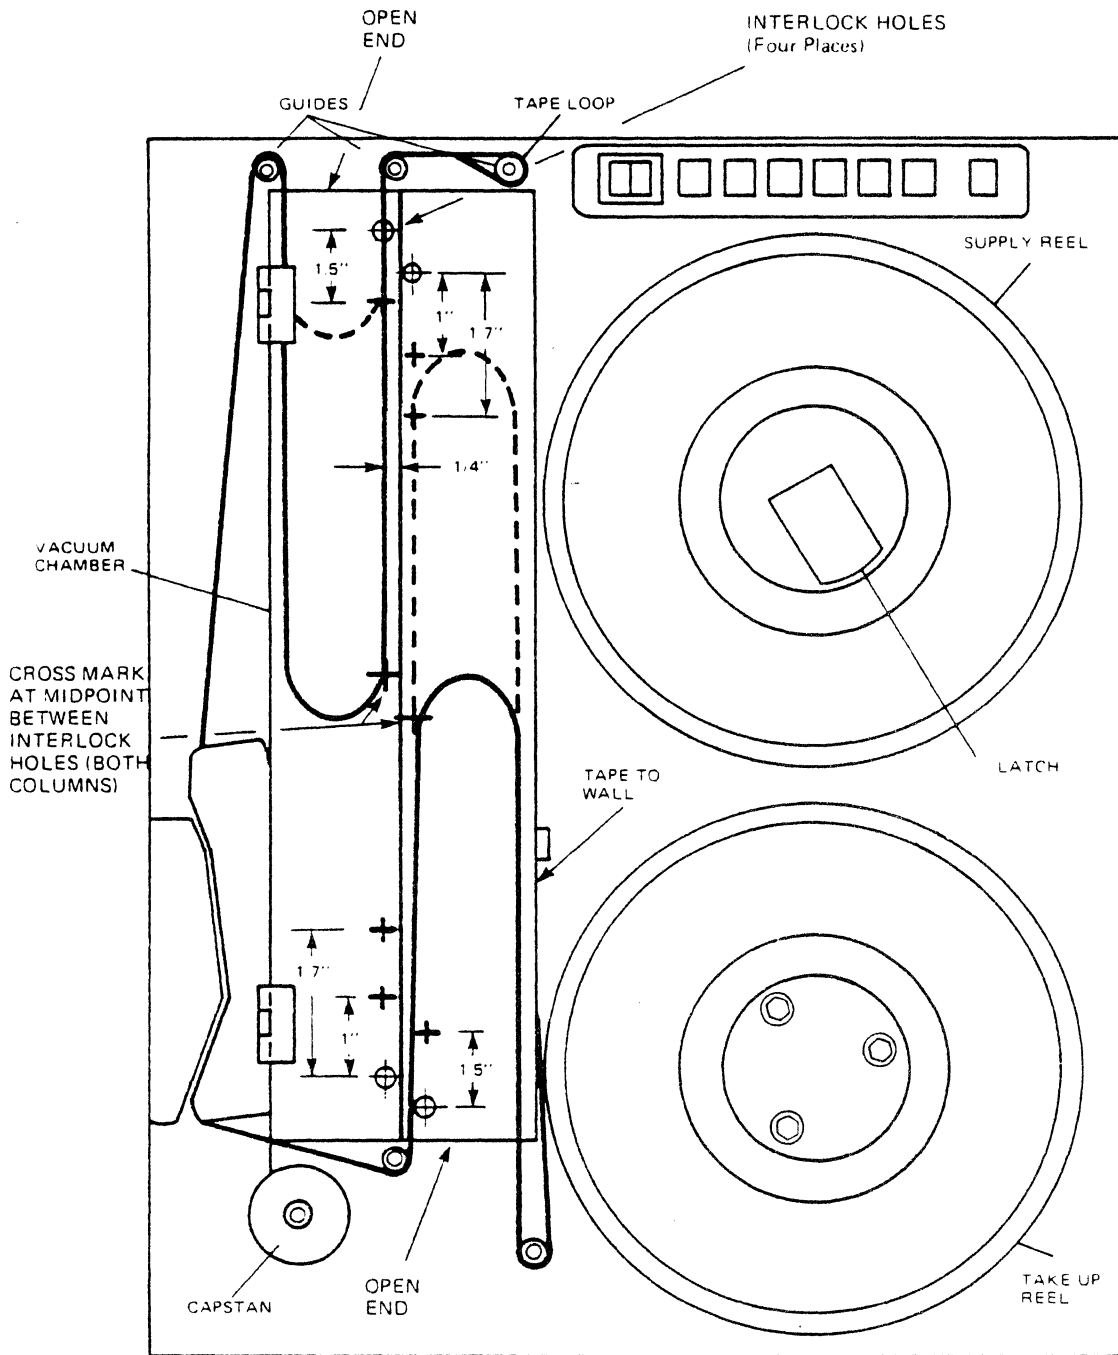

Figure 5-3. Tape Loop for Vacuum Column Servo Adjustment
- b. Remove the head covers. Load a loop of tape in the vacuum chamber as shown in figure 5-3.
- c. Position tape loop so that tape intersects a point 1/4 inch from vacuum column wall and half the distance between interlock holes (figure 5-3). Adjust potentiometer R6006 for indication of zero volts ( $\pm 10\text{mV}$ ) on digital multimeter.
- c. Position the tape loop so that tape intersects a point 1/4 inch from vacuum wall and half the distance between interlock holes (figure 5-3) Adjust potentiometer R7006 for an indication of zero volts ( $\pm 10\text{mV}$ ) on the digital multimeter.